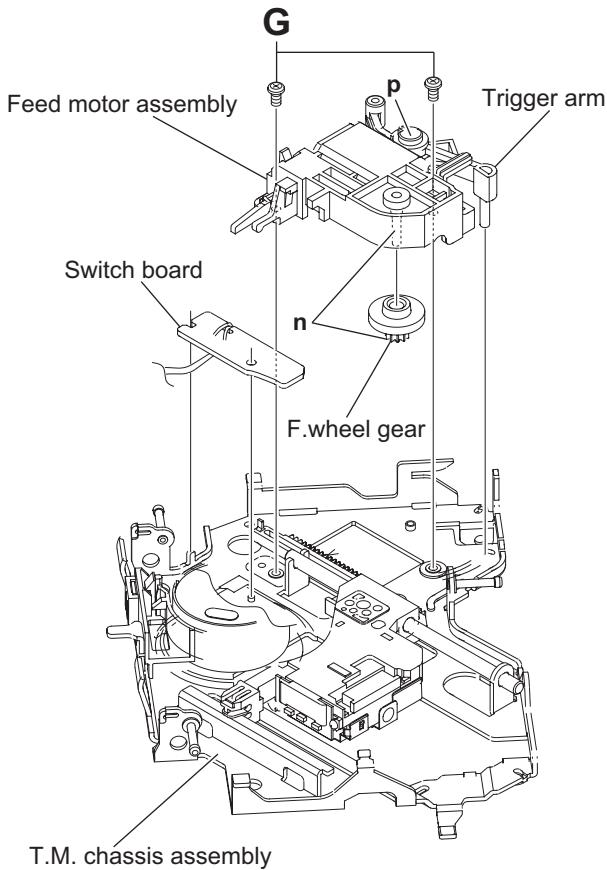

Fig.18
3.2.10 Removing the feed motor (See Fig.18 and 19)
- (1) From the bottom side of the T.M chassis assembly, remove the two screws **G** attaching the feed motor assembly. (See Fig.18.)
When attaching the f. wheel gear, trigger arm and feed motor, apply grease to the sections (**n**, **p** and **q**). (See Fig.18 and 19.)
3.2.11 Removing the SWITCH BOARD assembly (See Fig.18)